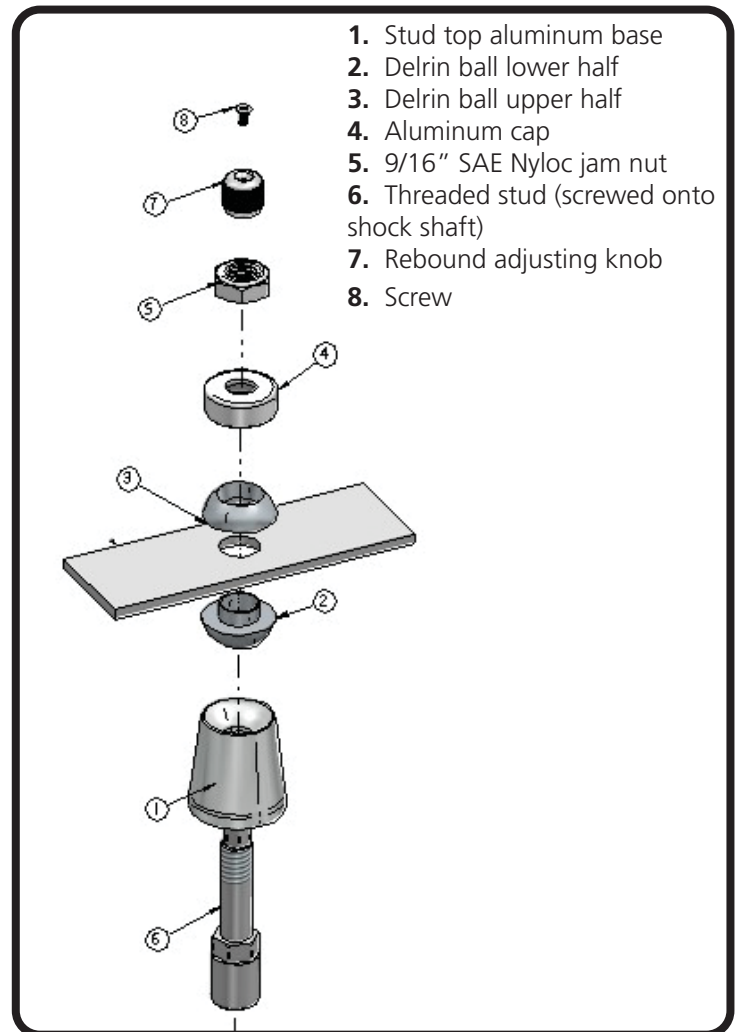

Figure 4
5. Place the Shockwave into the coil spring pocket with the stud sticking through the OEM shock hole. See Figure 4.